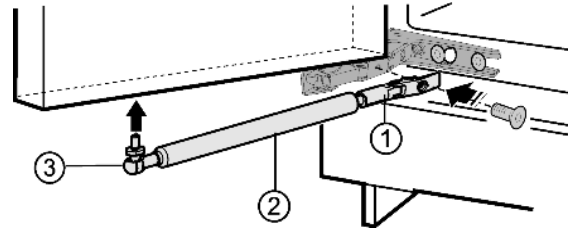

Fig. 5
- ▶ Screw on the holder Fig. 5 (1).
- ▶ Screw the ball stud Fig. 5 (3) together with the soft stop mechanism Fig. 5 (2) into the fastening hole.